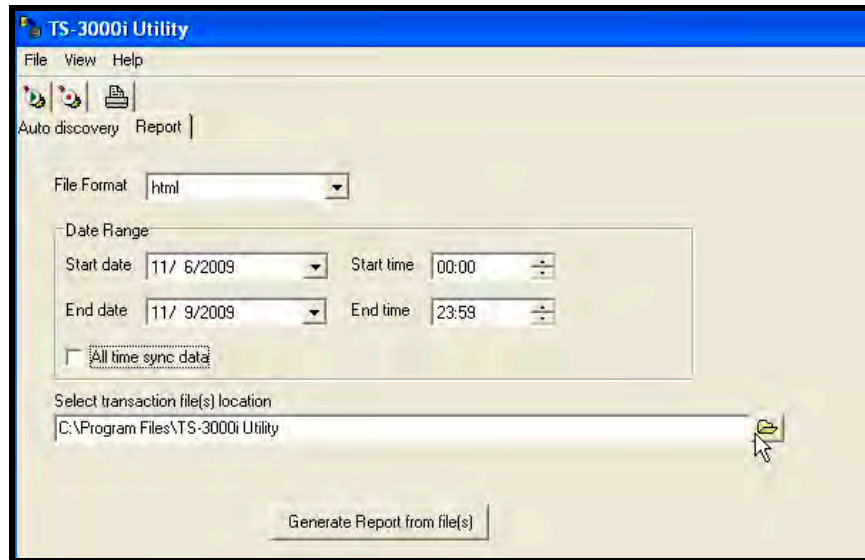

Figure 5-8: TS-3000i Utility Report Tab
- Step 5.** Click on the Browse button to use the Windows Select Directory dialog (see Figure 5-8) to navigate to the folder where the “**MAC address_ATVSTrans.txt**” backup files are to use for the report.